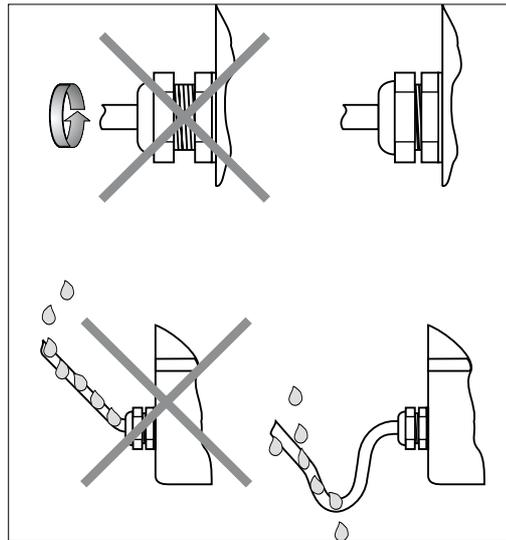

Fig. 6:
- The cable must loop down before entering the cable gland to ensure that no moisture can enter it (see Fig. 6).